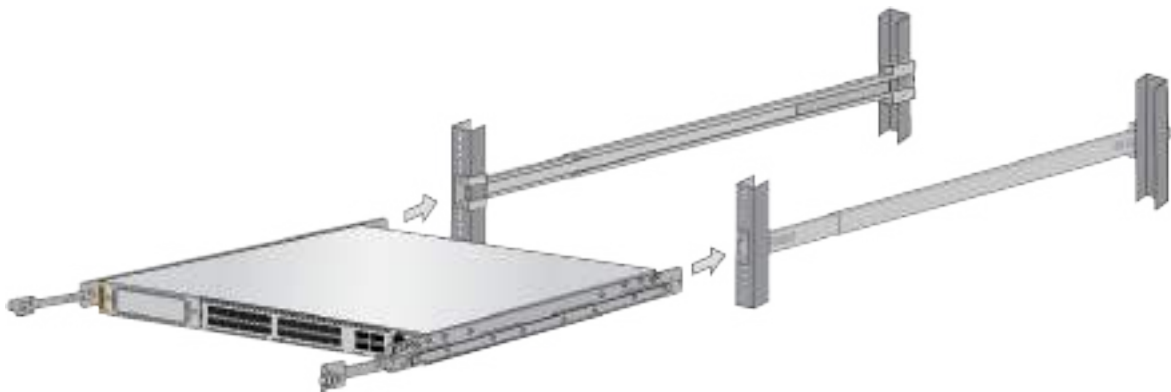

Figure 98. Sliding the Inner Rails on the Switch into the Outer Rails
1. Install the switch in the sliding rack by sliding the inner rails into the outer rail grooves. Refer to Figure 98.